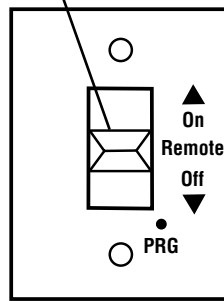

Figure 42
Place the 3 position slider switch in the "Remote" position (see **Figure 42**). Using the end of a paper clip, or other similar object, insert the end of the paper clip into the hole marked "PRG" on the Receiver front cover. The Receiver will "beep" three (3) times to indicate that it is ready to synchronize with a Transmitter.